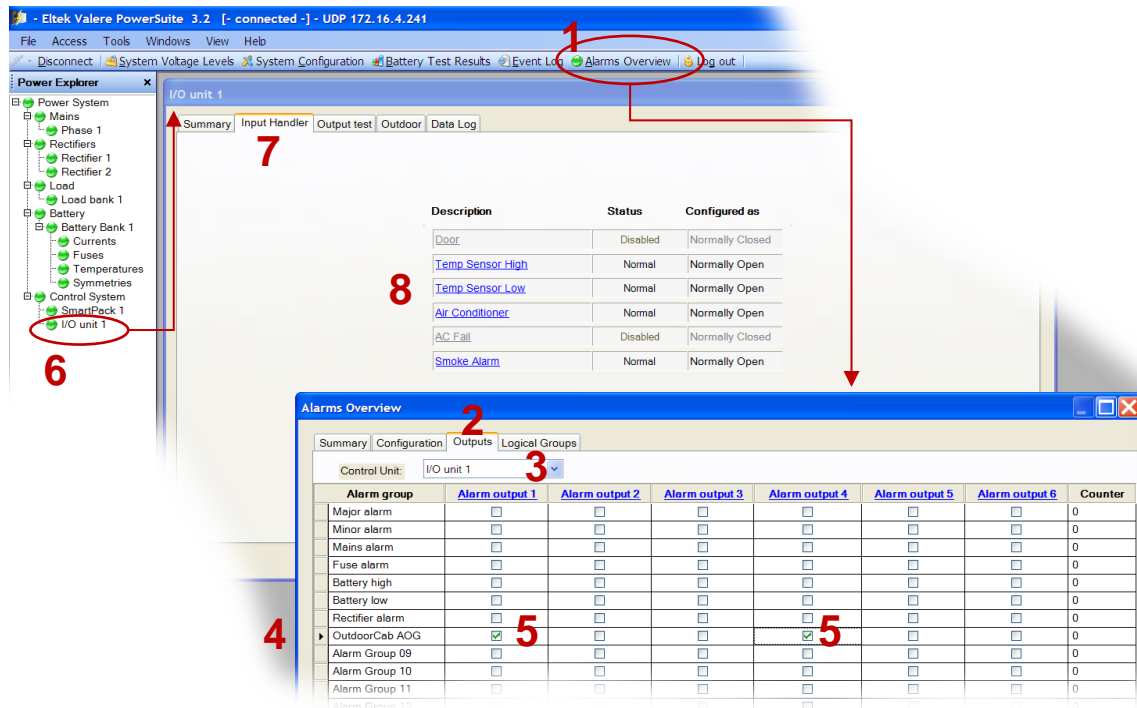

Figure 5 Example of I/O Monitor configuration in PowerSuite
In general, the connected *I/O Monitor* node(s) are displayed in the *PowerSuite*'s Power Explorer pane (6), under the *Control System* node, see "Figure 5", page 13.